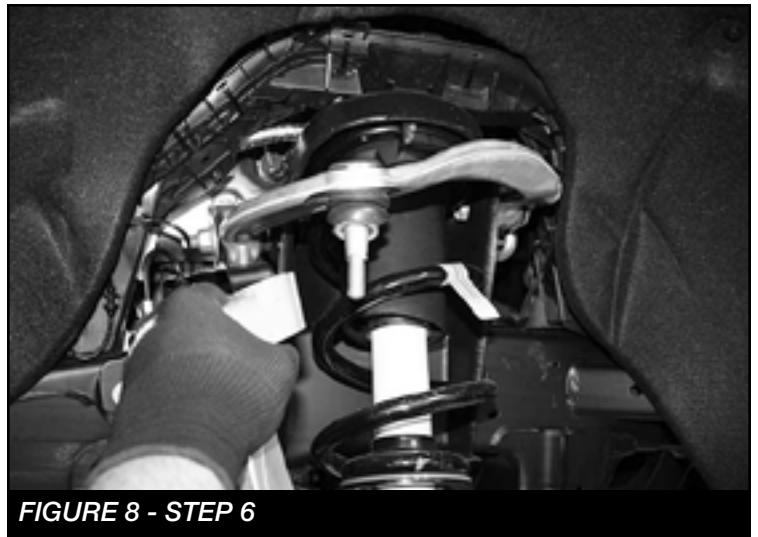

FIGURE 8 - STEP 6
6. Loosen the upper ball joint nut and strike the knuckle with a hammer until it comes loose from the upper control arm. Next, remove the factory nut. Then, detach the knuckle from the upper control arm. Push the knuckle to the side and secure if possible. **SEE FIGURE 8**